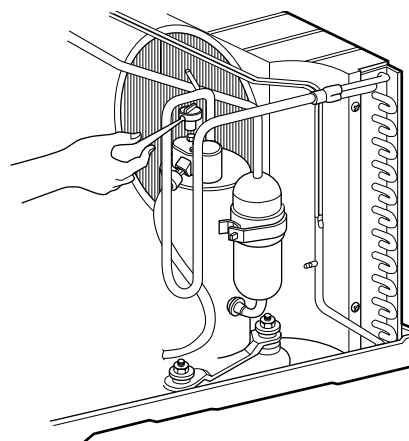

Figure 22
3. Remove the terminal cover. (See Figure 22)